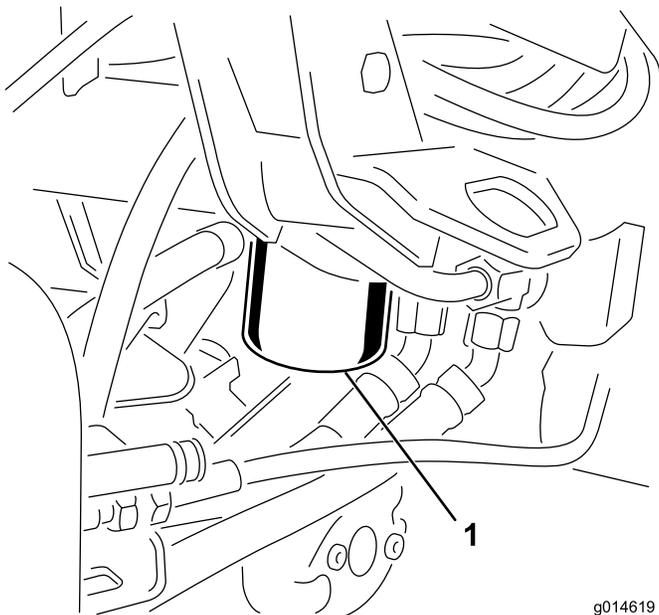

Figure 43
1. Clean the area around the filter mounting area (Figure 43). Place a drain pan under the filter and remove the filter.